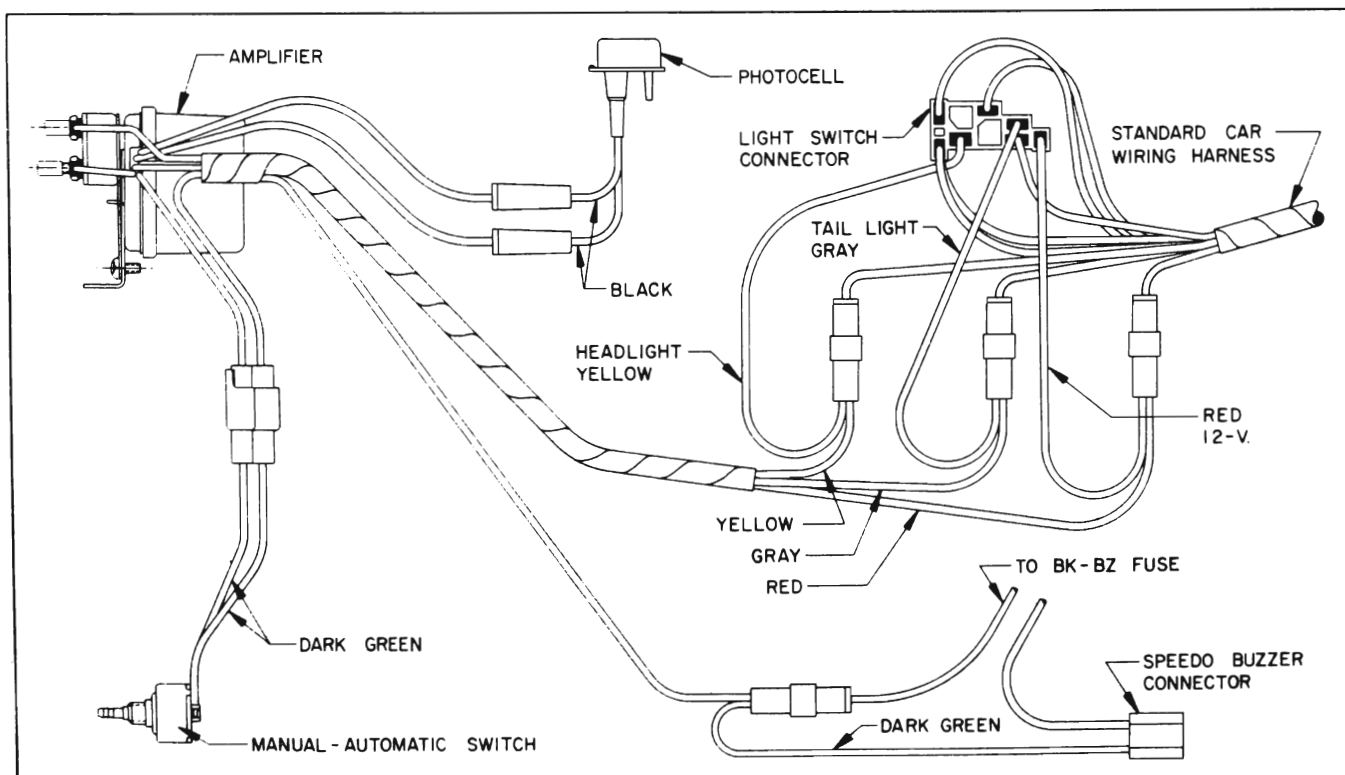

Figure 11-172—Twilight Sentinel Wiring Diagram
The Twilight Sentinel is an electronic device which automatically controls the on-off operation of the headlights, tail lights, and instrument lights of the car on which it is installed. This operation is in response to the amount of light striking a light sensitive cell. The complete system consists of three units—photocell assembly, amplifier, and manual-automatic switch. See Figure 11-172.
(1) Disconnect red wire in-line connector.
(2) Remove connector from red wire in standard car wiring harness. See Figure 11-172.
(3) Remove red wire from light switch connector.
(4) Plug red wire of car harness into light switch connector.